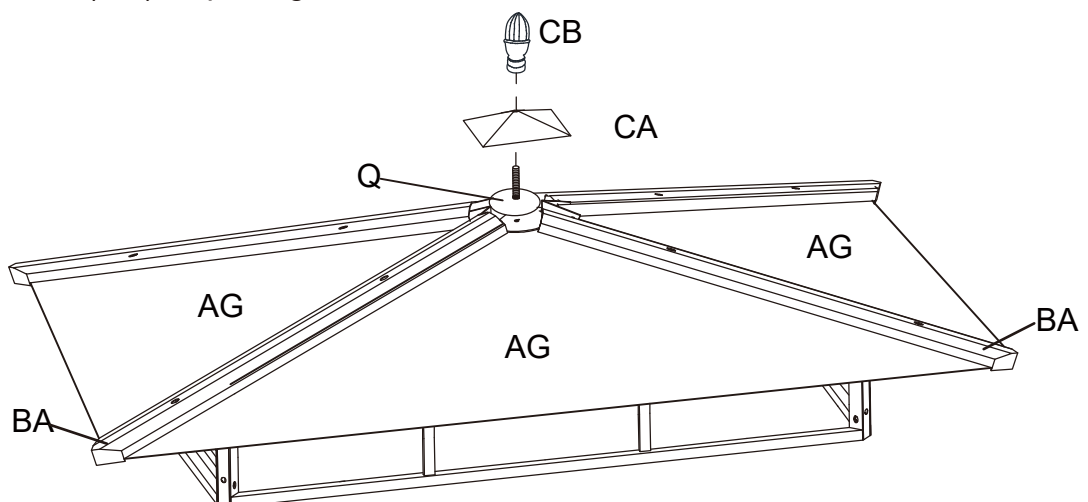

Fig 19
3-f. Attach the Small Top Cover (CA) to the Center Connector (Q) and then tighten the Ornament (CB) to the Bolt of the Center Connector (Q), as per Fig 19.